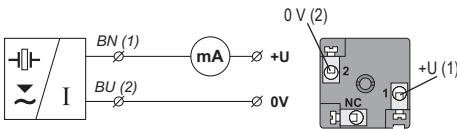
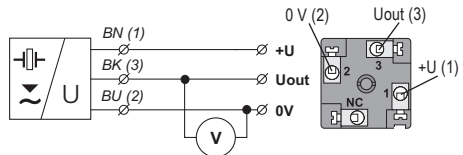
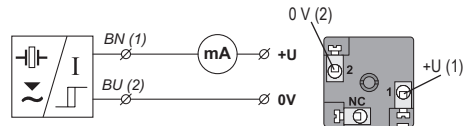
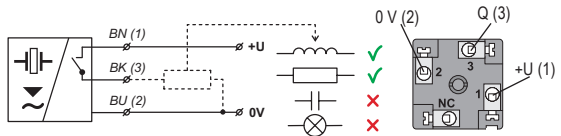

Fig. 16: Connection diagram of the ULM level meter (variant -I) and inside view of the connector
Fig. 17: Connection diagram of the ULM level meter (variant -U) and inside view of the connector
Fig. 18: Connection diagram of the ULS sensor with S type output (two-state current switch 4 mA / 20 mA)
Fig. 19: Connection diagram of the ULS sensor with P type output (PNP) with an open collector
The ULM level meter or ULS level sensor with a G type cable gland are connected to processing (display) units by means of a cable with an outer diameter of 6 to 8 mm (recommended wire cross-section 0.5 to 0.75 mm²), via a detachable ISO connector with inner screw terminals, which is part of the delivery. The connection diagram and the inner view of the connector are shown in Fig.16 and 17. Non-detachable connector IP67 with PVC cable 5 m long can be supplied as an extra option.
4. Connect the cable wires to the screw terminals as shown in Fig. 16 (current output 4-20 mA), Fig. 17 (voltage output 0-10 V), Fig. 18 (S type output) or Fig. 19 (P) type output. Tighten the terminals firmly.